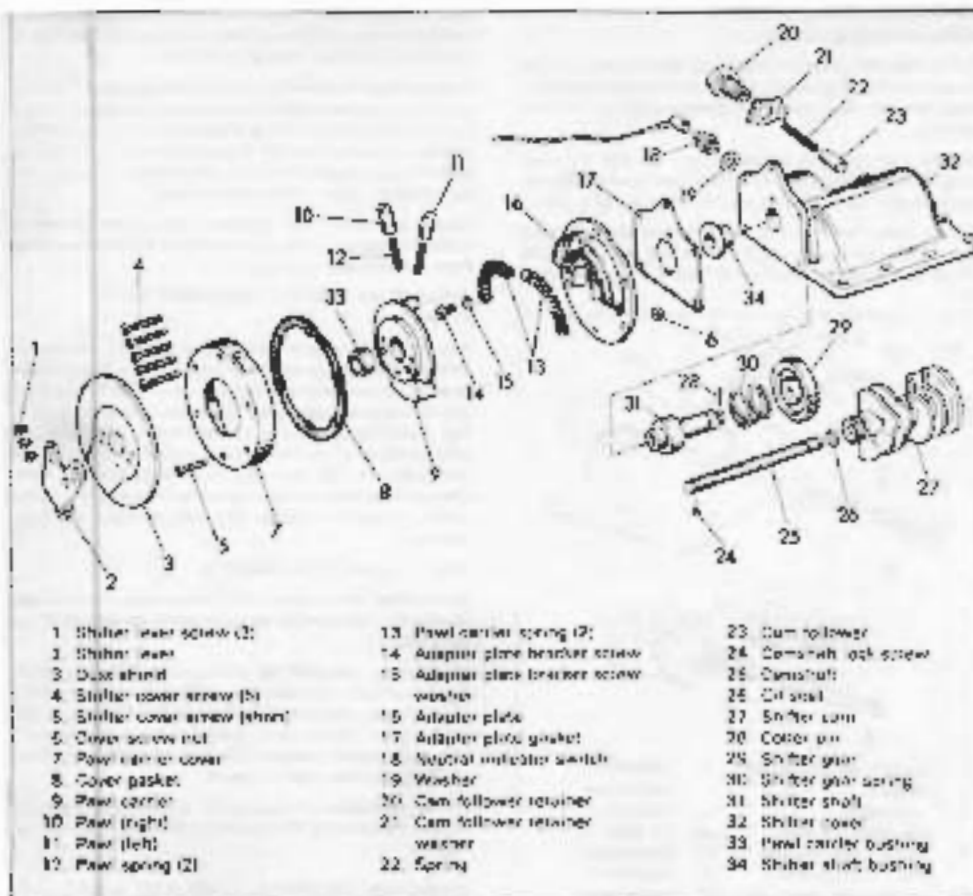

Figure 4-12 Ford Shifter Cover - Exploded View
### DISASSEMBLING SHIFTER COVER (FOOT SHIFT) (Figure 4-12)
#### CLEANING, INSPECTION AND REPAIR (Figure 4-12)
#### ASSEMBLING SHIFTER COVER (FOOT SHIFT) (Figure 4-12)
Refer to Figure 4-12. Position shifter gear (29) and spring (30) in case, so side of gear with timing mark is toward case. Insert shifter shaft (31) so parts are timed as shown in Figure 4-13 and top parts together. Insert cotter pin (28).